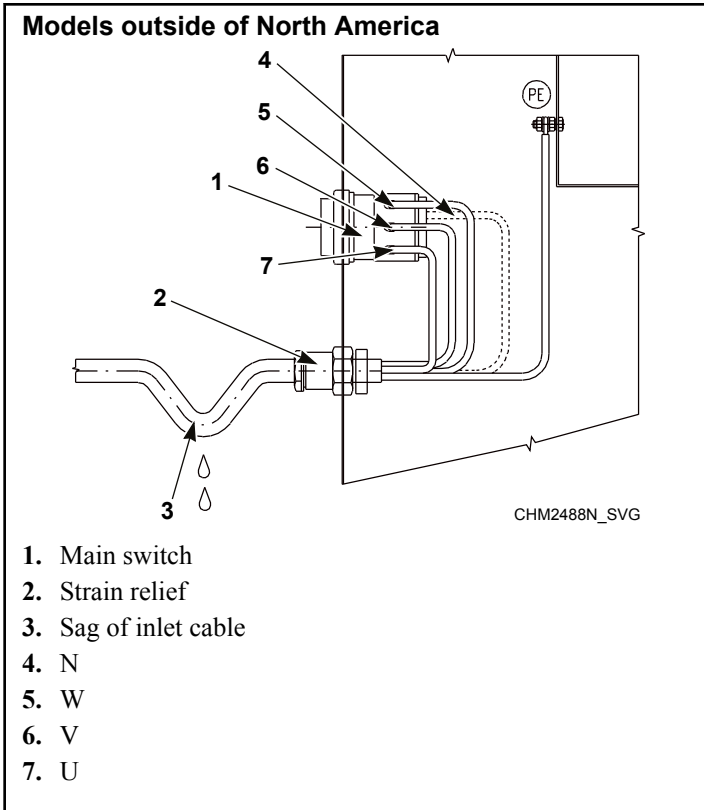
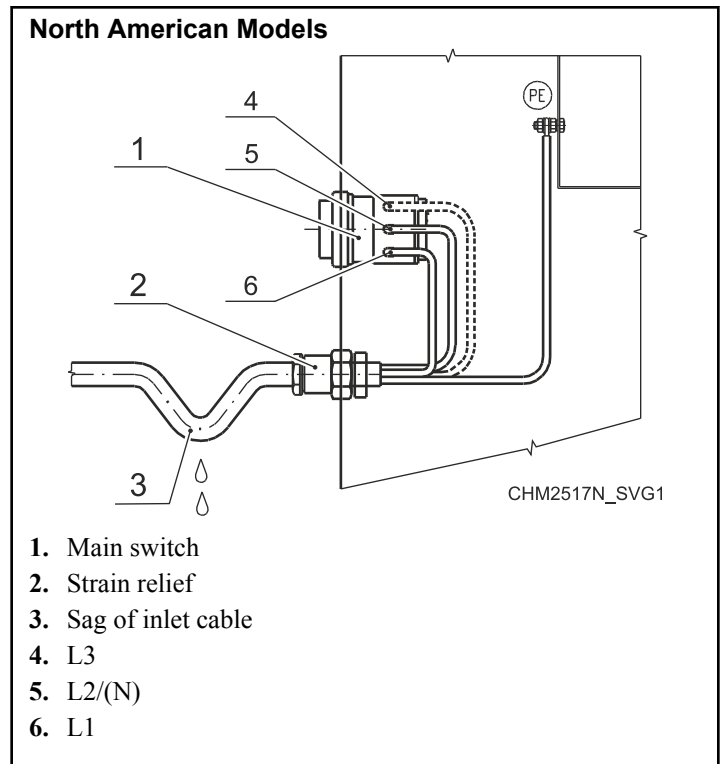

Figure 40
Figure 41
3. With stranded conductors, use wire end tubes with an insulated sleeve (6) for L1/U, (L2/V), (L3/W), (N) conductors. Make sure there is no accidental contact, since the supply cable stays under voltage even when the main switch is off.
5. Connect the supply cable conductors to the incoming terminals (main switch [1]), marked with L1/U, (L2/V), (L3/W), (N) and the terminal marked with PE. Refer to *Figure 40* or *Figure 41*.
6. Provide a sag in the cable, in front of the strain relief. This will prevent condensed water from dripping into the machine. Refer to *Figure 40* or *Figure 41*.